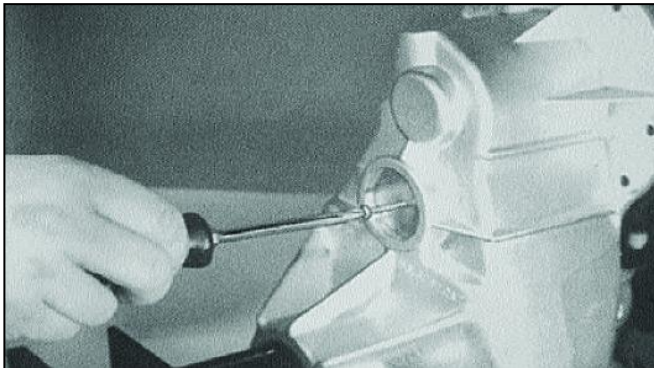

Figure 7-9
11. See Figure 7-9. Punch or drill a 1/8" diameter hole near the center of each intermediate cup plug (11). Insert a suitably sized sheet metal screw until the metal bore plug is forced out of the bearing bore.